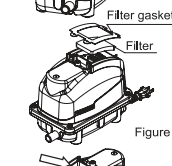
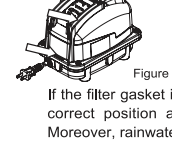

Figure 3
Figure 4
- ④Remove the filter from the upper housing and replace it with a new or clean one. (Figure 3) Flick the dirty filter well to remove the dust. When it is extremely dirty, use neutral detergent and rinse well, then let dry in the shade.
- ⑤Check and make sure the air inlet is not clogged.
- ⑥Remove the dust at the Upper housing rear. (Figure 4)